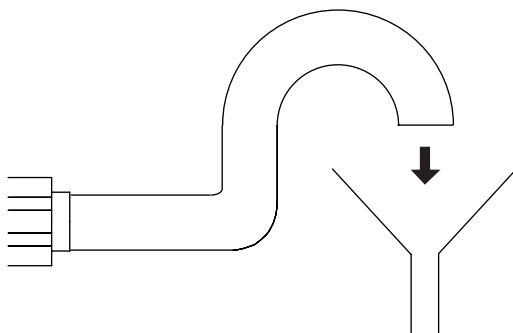

Fig. 3
- **If feeding into the drains at atmospheric pressure, insert an upward-pointing 90°- elbow into the outlet pipe to preserve the atmospheric pressure in the system (see fig. 3). The reference electrode may otherwise be damaged.**